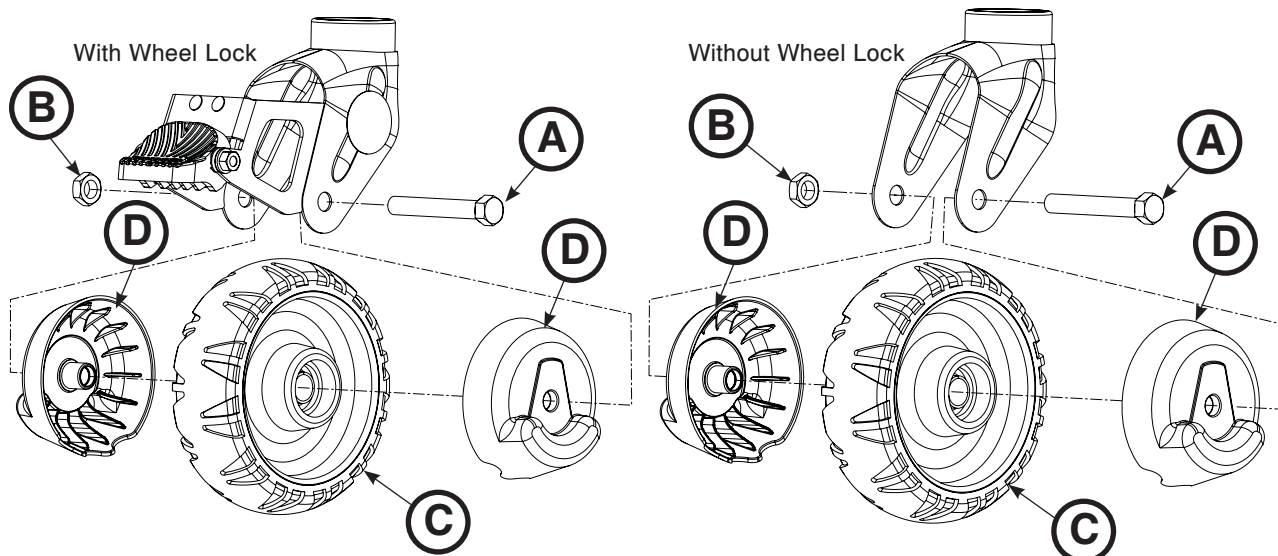

Figure 31: Cot Wheels with Wheel Covers
4. Align two wheel covers (6390-001-206) around the wheel, so that the wheel covers match on both sides (Figure 31).
5. Using a 5/8" socket with a 3/8" drive ratchet and a 11/16" combination wrench, install the hex head cap screw (A) and nut (B) to secure the wheel (C) with the wheel covers (D) to the caster horn (Figure 31).